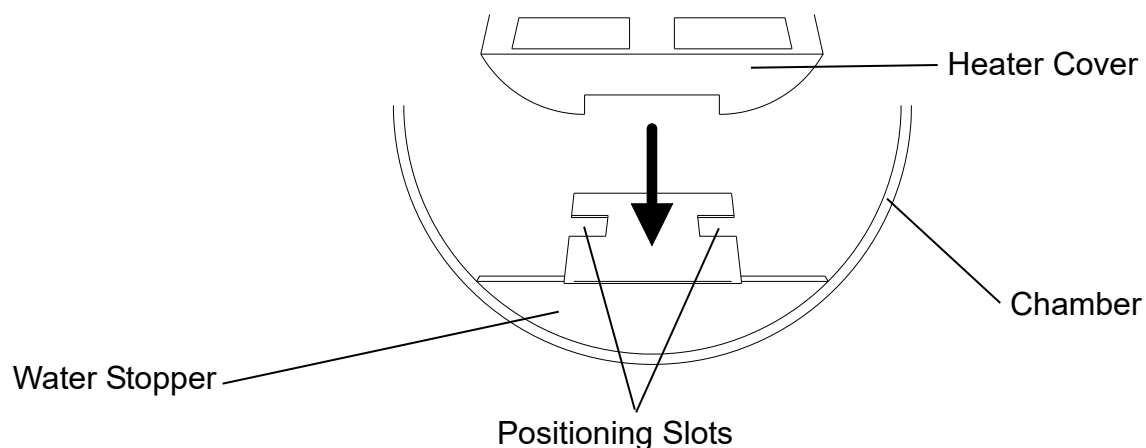

Figure 31 – Heater Cover
- E. Install the heater cover to the chamber as shown in Figure 31 (standard accessory) Ensure the rounded edge is towards the back and the vertical front edge of the cover locates securely into the corresponding slots in the lower part of the chamber opening.